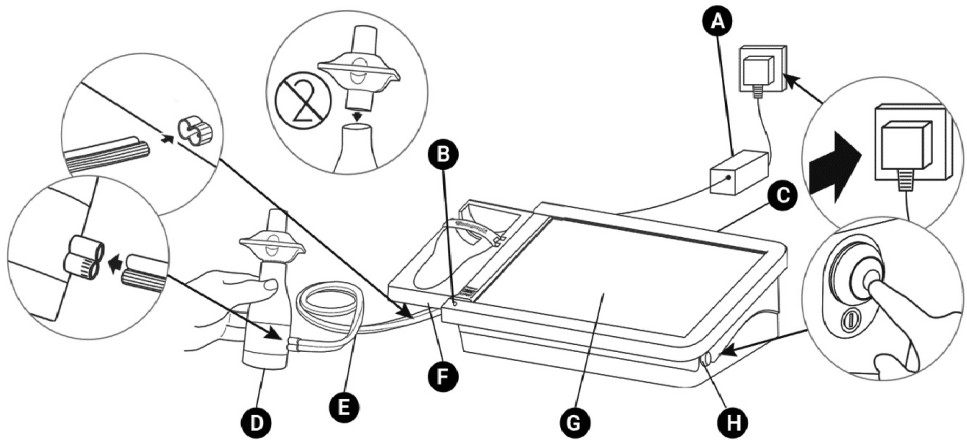

Figure 1 Main components of the COMPACT
1. Attach the flowhead to the Vitalograph COMPACT using the dual silicone tubing (Flowhead Connection Tube). Ensure that the ribbed tapping on the flowhead is connected to the ribbed side of the connection in the housing. If tubing is connected the wrong way, spirometry results may appear to be inverted (see Figure 1)